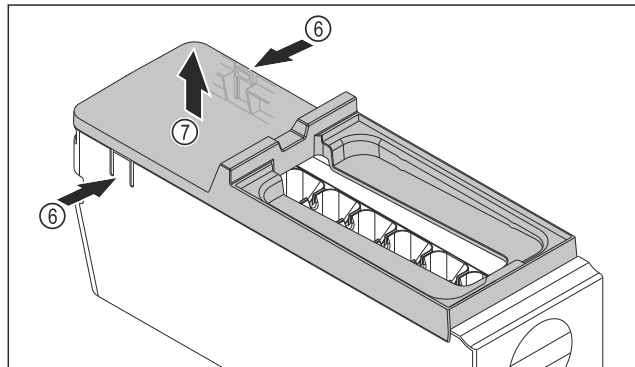

Fig. 118
- ▶ Removing the EasyTwist-Ice body cover: Push the tabs Fig. 118 (6) on both sides of the EasyTwist-Ice body with one hand.
- ▶ Use the other hand to remove the cover Fig. 118 (7) upwards.